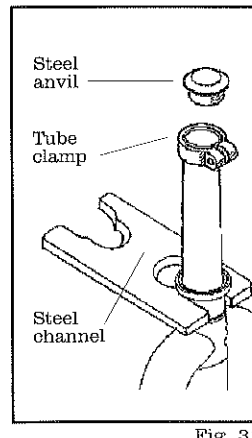

Fig. 31
1. Clamp or bolt the **steel channel** to a bench with the flanges facing up and the large opening overhanging the edge of the table (Fig. 31).